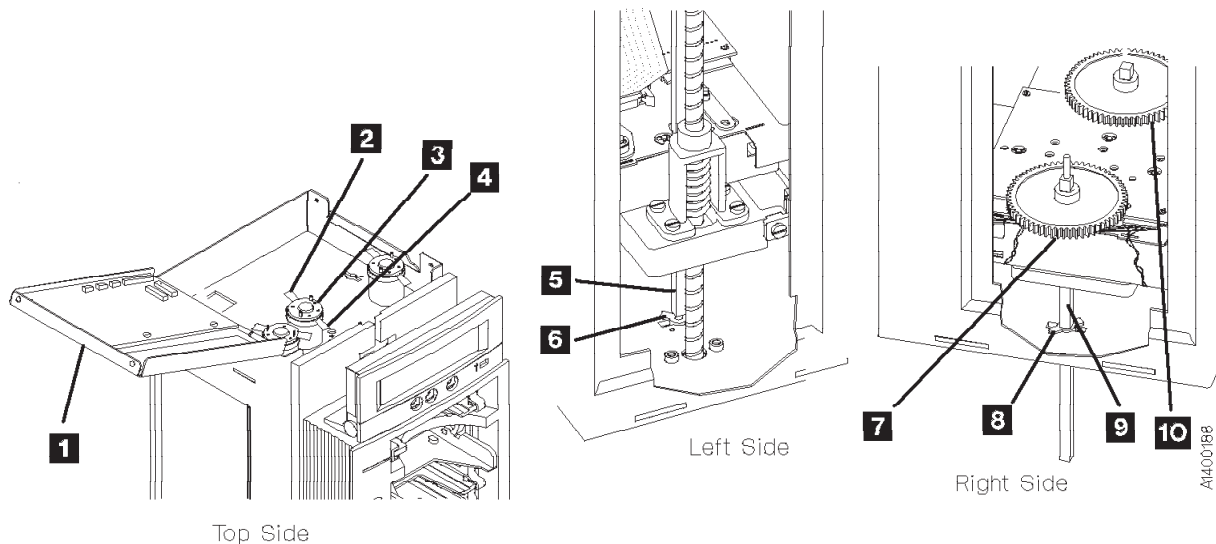

Figure 10-33. Feed Motor, Feed Shaft, and Pinch Shaft
4. Remove the ACF assembly from the drive and place it on its left side (pinch shaft up) onto the work surface to allow access to the feed shaft and feed motor assembly from the right side of the ACF. See “Automatic Cartridge Facility (ACF)” on page 9-33 for ACF removal, then return here. See Figure 10-33.